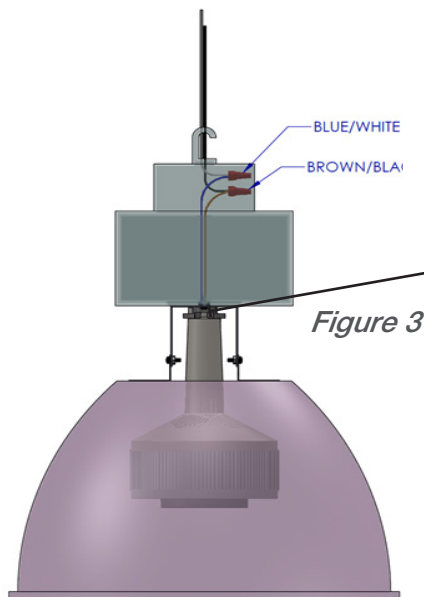

Figure 3
- Step 5: Make sure all connections between lamp's input wires and line voltage are made in the ballast junction box [See figure 3].
Figure 3 (Right): Fully installed Lunera HID LED retrofit Kit Lamp. Make sure all connection between line voltage and lamp's wires are made in the junction box NOT the ballast case.